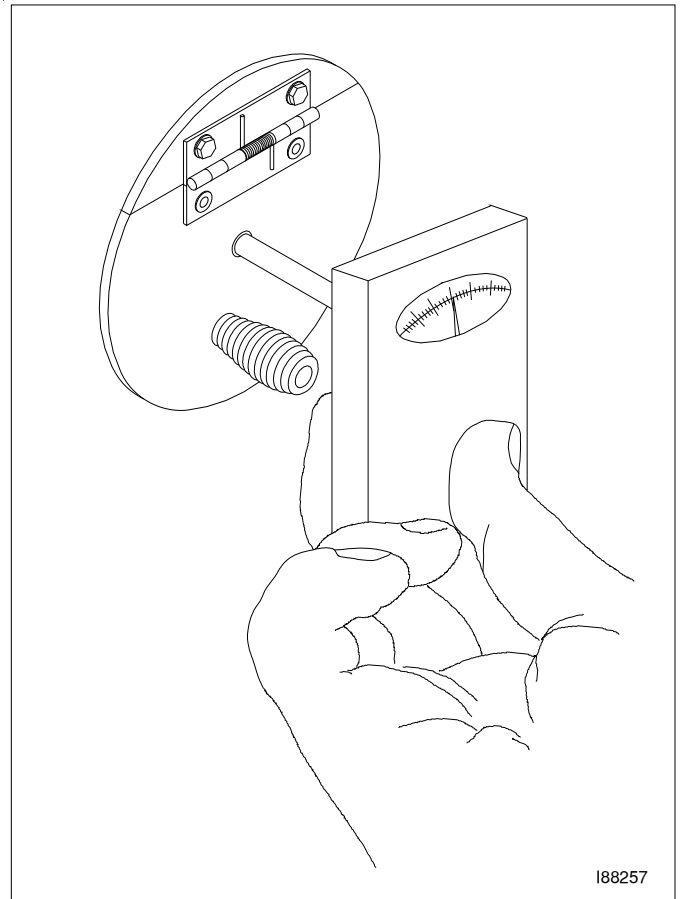

FIGURE 8A - Checking for Proper Draft Over Fire
1. Insert the probe of the draft gauge instrument into the draft reading port in the observation port as shown in Figure 8A.